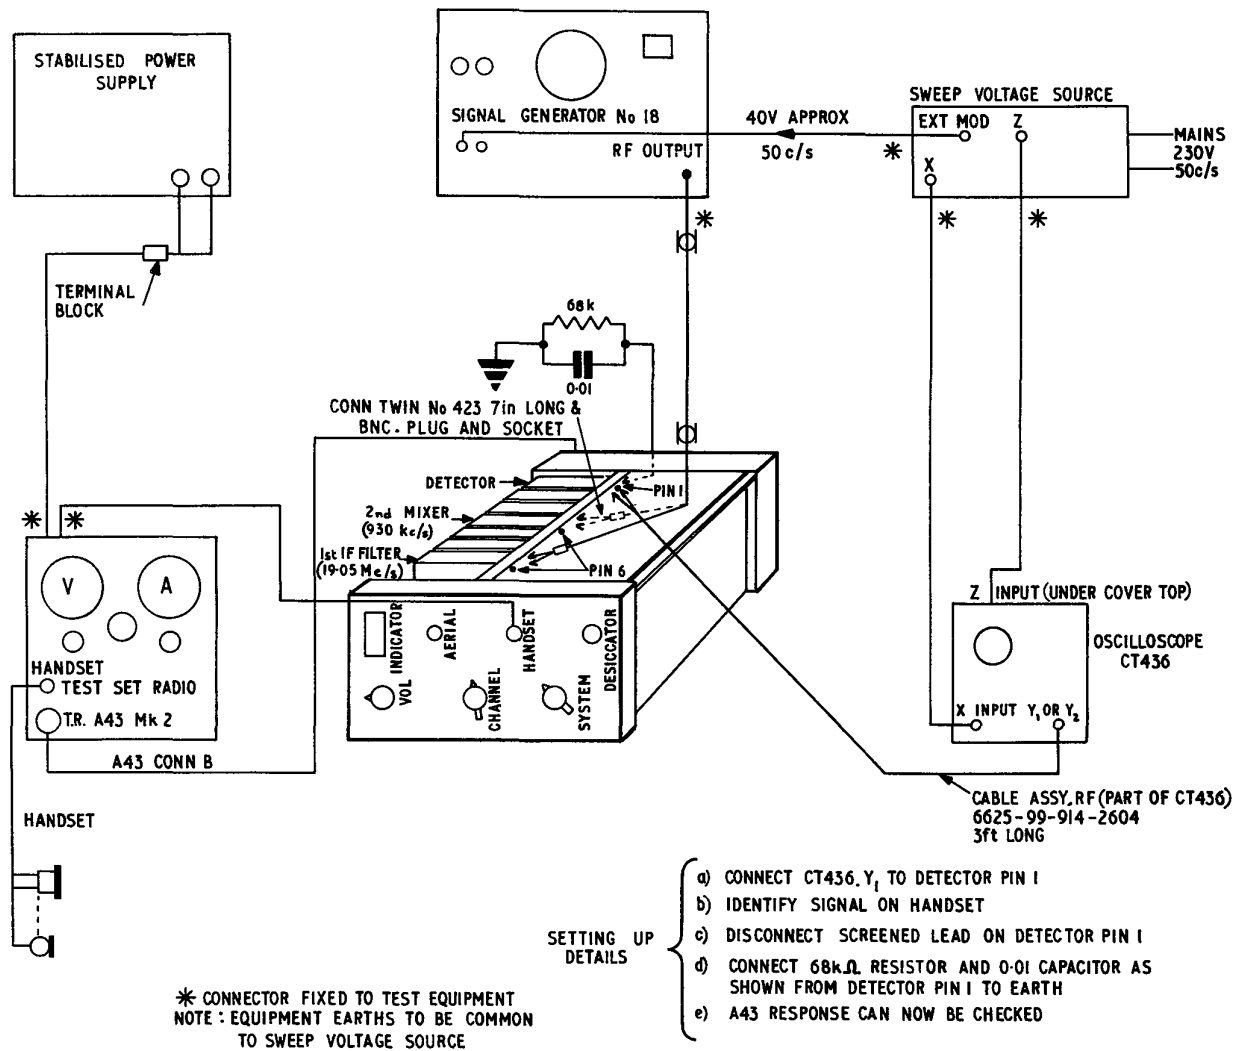

Fig 6 - Receiver i.f. alignment, modulation test layout
70. a. Connect the test equipment as detailed in Fig 6.
71. a. Connect the test equipment as detailed in Fig 6.